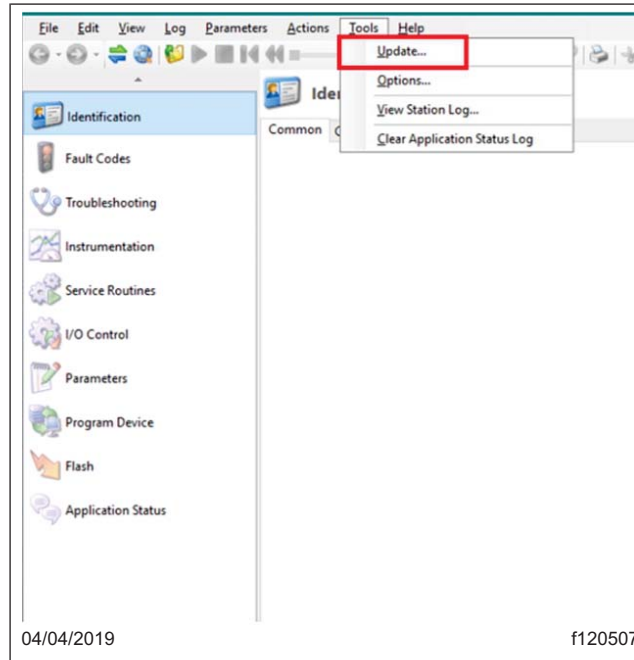

Fig. 1, Updating DiagnosticLink to the Latest Version
3. Connect the vehicle to DiagnosticLink. Make sure that DiagnosticLink is updated to the latest version, 8.10. To update DiagnosticLink, select "Update" from the dropdown menu under "Tools." See Fig. 1.